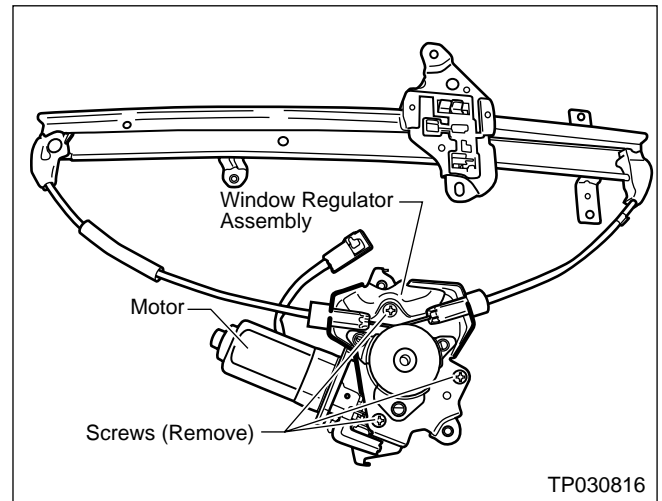

Figure 38
19. Take out three screws and remove the Motor from the Window Regulator Assembly (see Figure 38).